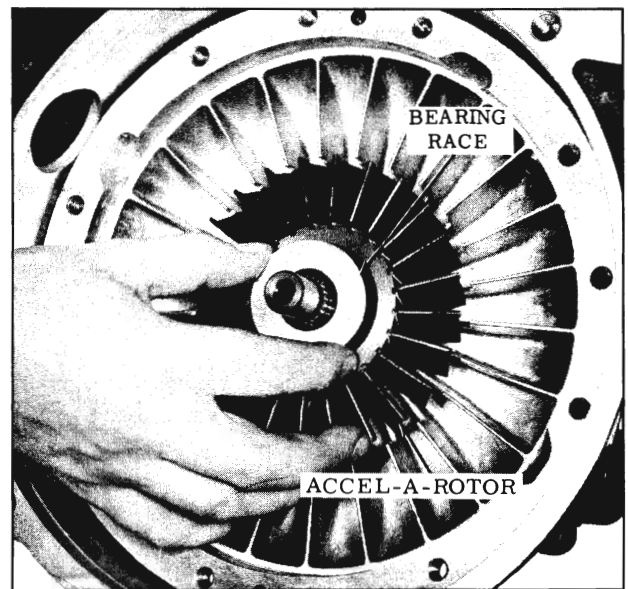

Fig. 3-307 Accel-a-rotor Bearing Race
- 38. Install the flat bearing race into accel-a-rotor. (Fig. 3-307)